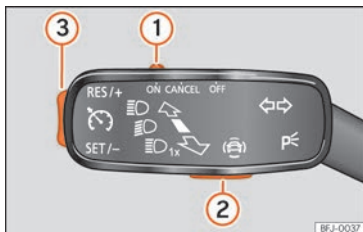

Fig. 252 On the left of the steering column: control and buttons to operate the speed limiter.
»» Fig. 252 ① of the turn signal lever into position **CANCEL** or the third lever into pressure point **CANCEL** or press button ② on any lever.